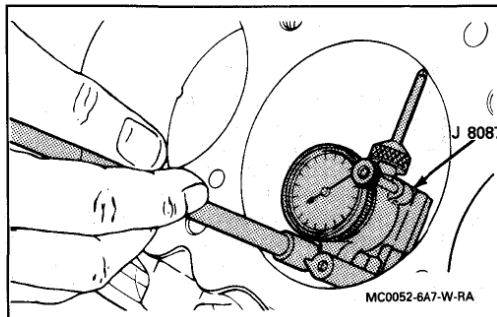

Figure 29 Measuring Cylinder Bore
3. Cylinder bore, with J 8087 measure for wear, taper, run-out and ridging (Figures 29 and 30).